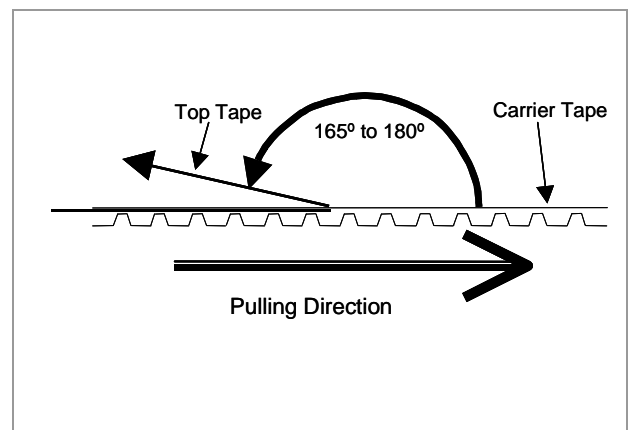

Fig.9 Peeling Strength
- The power peeling top tape from carrier one shall be $0.1N$ {10gf} to $0.7N$ {70gf}. "Fig.9"